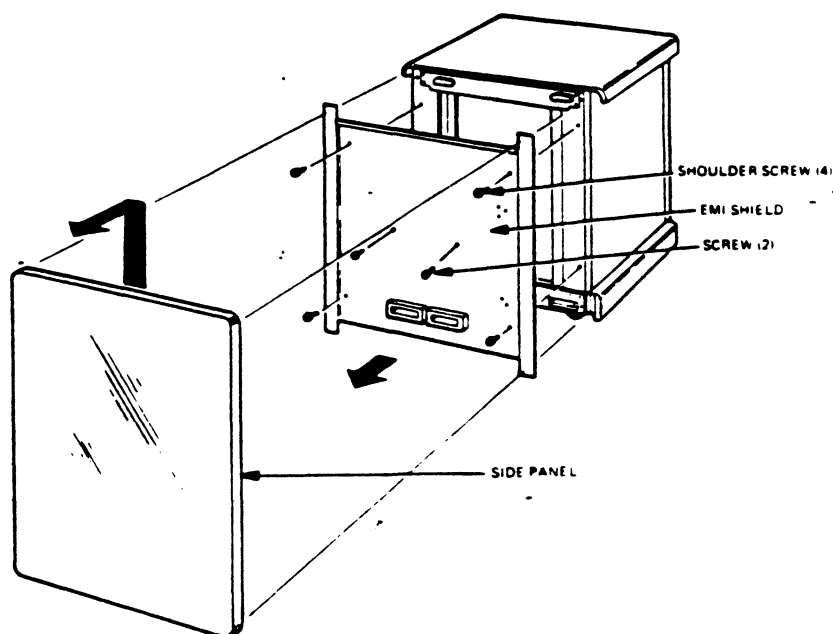

FIGURE 5-25 CABINET SIDE PANEL REMOVAL
4. Lift the left side panel straight up from both sides. Be careful, the outside panel is heavy. See Figure 5-25.